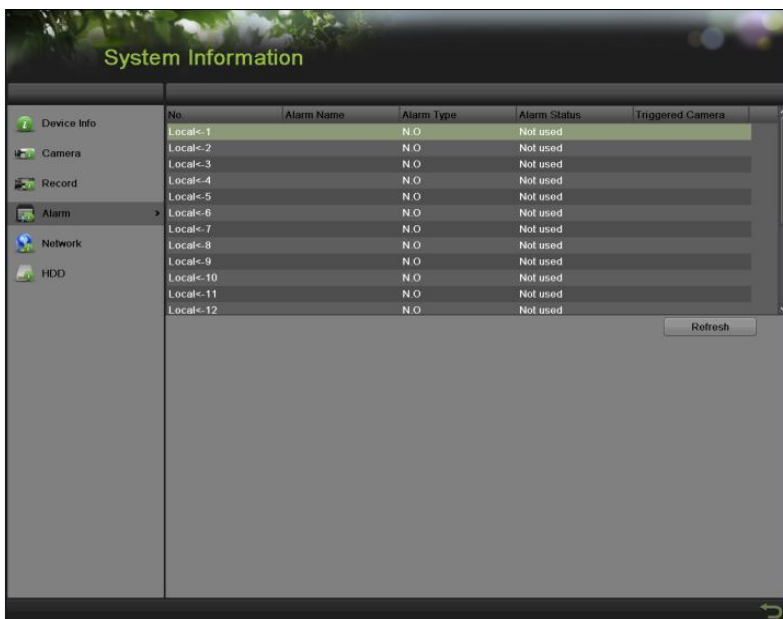

Figure 50 Alarm Information Menu
- Select the Alarm tab to enter the Alarm Information menu to view the alarm information, as shown in **Figure 50**. You can click the refresh button to renew the information displayed.